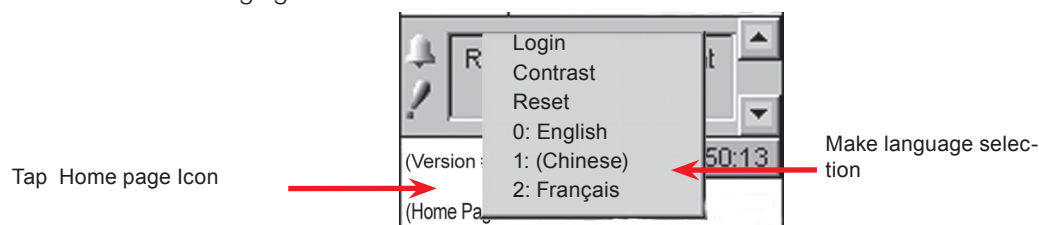

Figure 10 — Language selection on home page
1. Tap the Home page icon and then tap **Reset** on the pop-up window (see Figure 10). A new pop-up window alerts the user "You are about to perform a system reset."